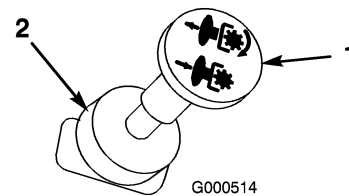

Figure 7
2. Move the PTO (power take-off) to Off (Figure 7).
- Move the PTO to Off (Figure 7).